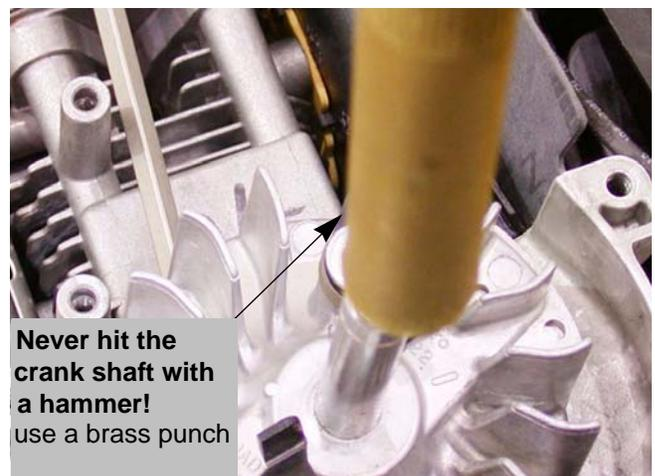

Figure 8.9
17. Remove the flywheel by applying a sharp blow to the crankshaft while gently prying with a pry bar. The flywheel will loosen then lift it off. See Figure 8.9.